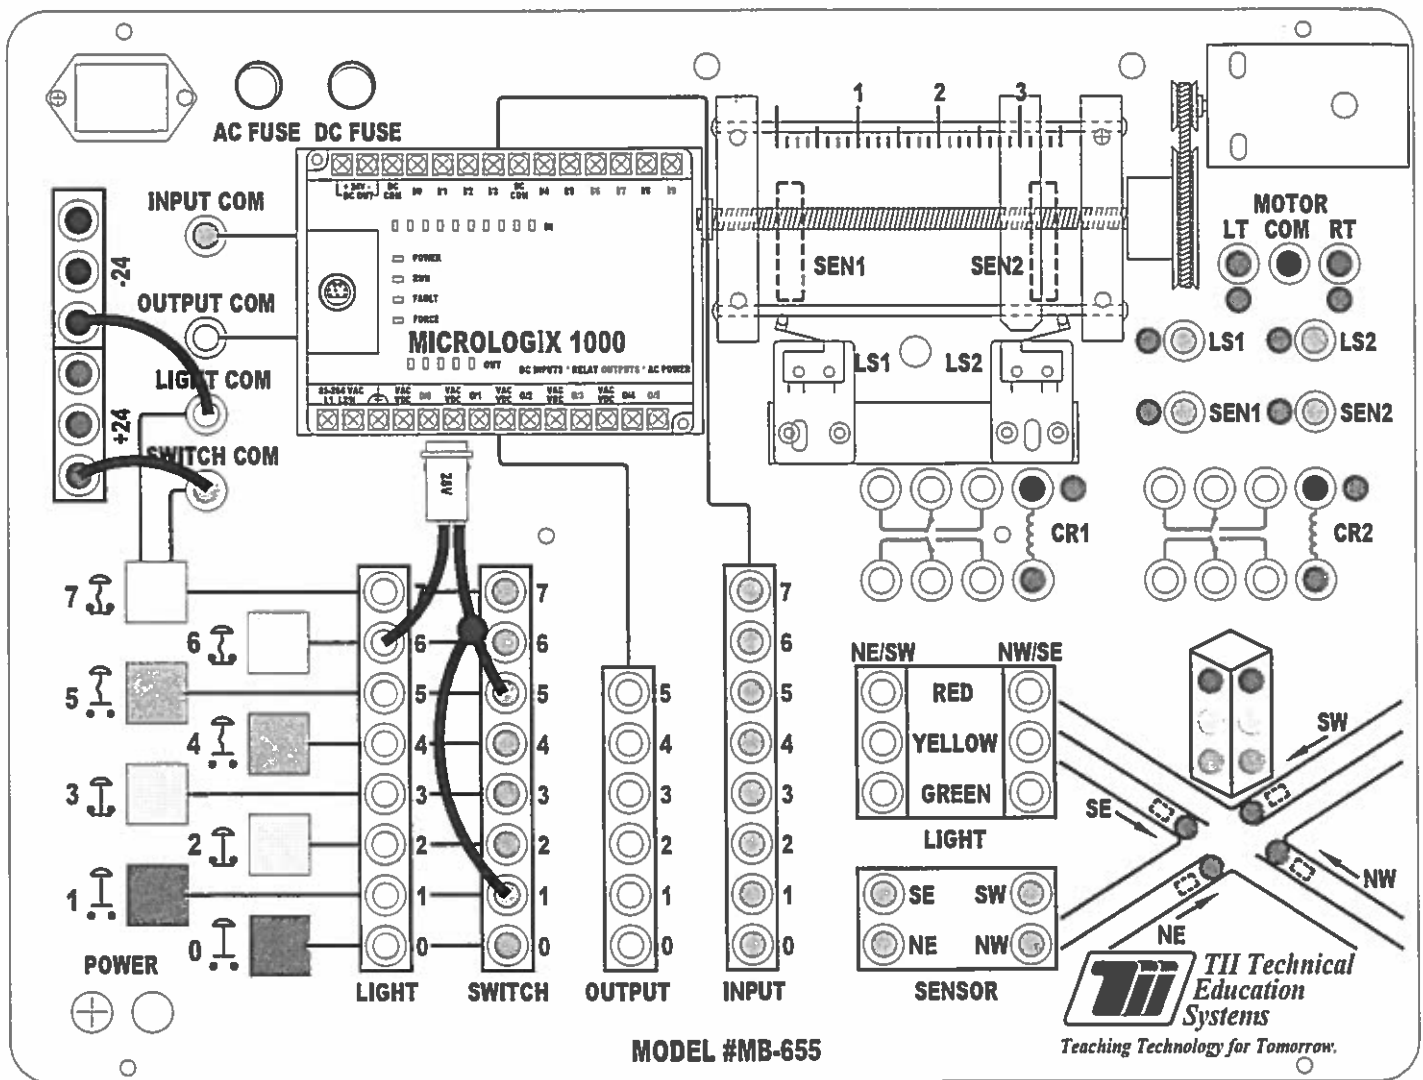

Figure 3-7
6. Modify the circuit to that shown in Figure 3-7.